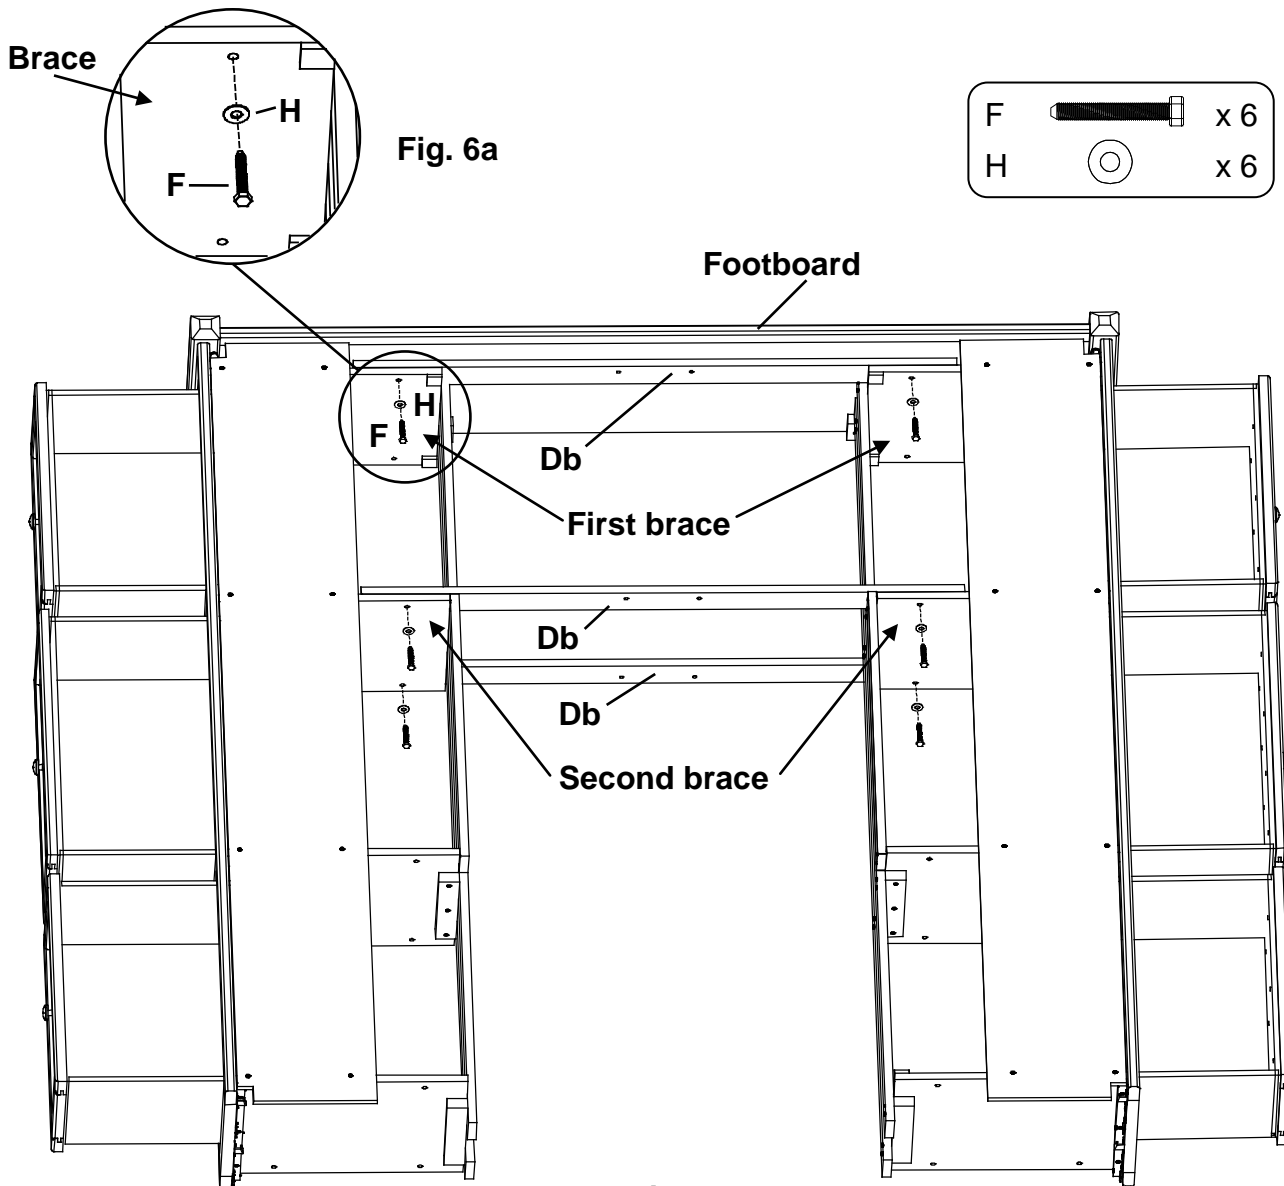

Fig. 6
Place a Trestle with T-Nuts (Db) on the outside surface of the second lower brace so that the T-Nuts (ZU) sit near the bottom. Line up the bottom edges of the trestle and braces so they are nearly flush. Insert two 1/4" x 1-3/4" Hex Bolts (F) and Washers (H) and tighten. See Figures 6 and 6a.